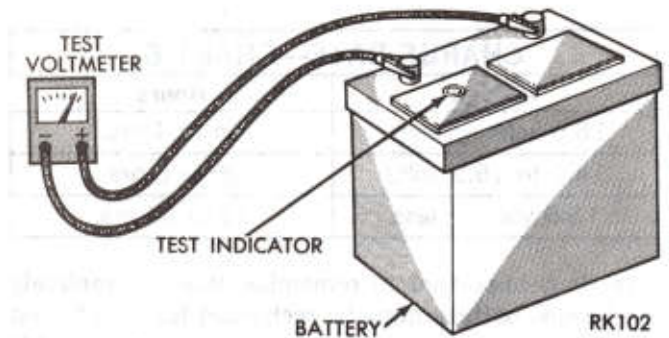

Fig. 11—Voltmeter (Accurate to 1/10 Volt) Tester Connected
(1) Measure voltage at battery terminals with a voltmeter, accurately to 1/10 volt. (Fig. 11). If below 10 volts, then charge current will be low and it could take some time before it accepts a current in excess of a few milliamperes. Such low current may not be detectable on ammeters built into many chargers.
(2) Set battery charger on high setting.
(3) Connect charger leads with correct polarity. Some chargers feature polarity protection circuitry which prevents charging unless charger leads are connected to battery terminals correctly. **A completely discharged battery may not have enough voltage to activate this circuitry, even though leads are connected properly, making it appear that battery will not accept charging current.** Therefore, follow specific charger manufacturer's instructions telling how to by-pass or override circuitry so that charger will turn on and charge a low-voltage battery.
(4) Battery chargers vary in the amount of voltage and current they provide. For time required for battery to accept measurable charger current at various voltages refer to **Charge Rate—Chart 6.** **If charge current is still not measurable at end of charging times, the battery should be replaced. If charge current is measurable during charging time, the battery is considered to be good and charging should be completed in the normal manner.**